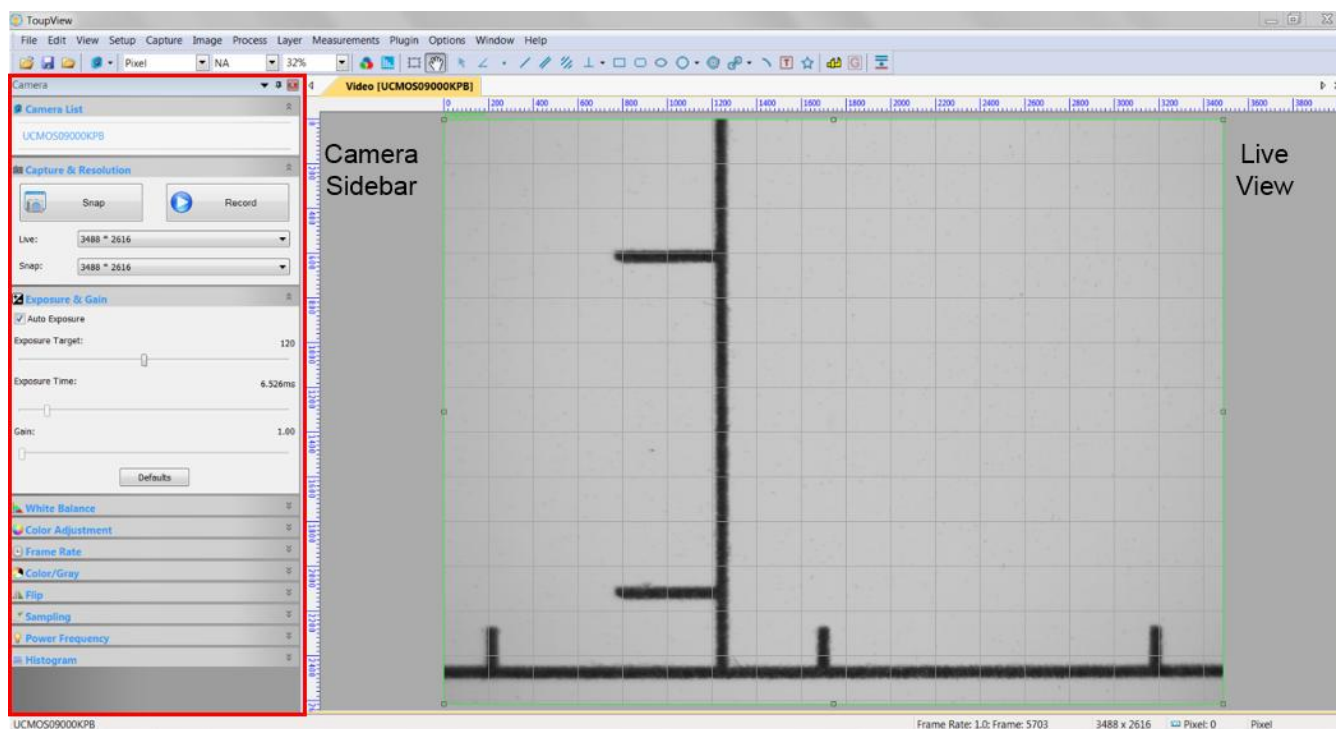

Figure 24. ToupView live camera view and Camera Sidebar
- 2) Expand the **Camera List** group, and select **UCM50900KPB**. A live view from the microscope will appear, as shown in Figure 24.